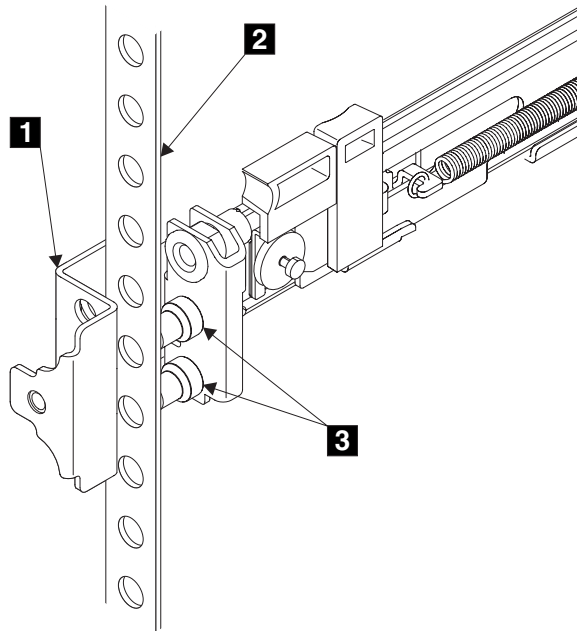

Figure 42. Installing the front end of the rail
6. Place the front end of the left rail in the rack cabinet. Align the top of the front bracket **1** (Figure 42) with the required EIA marking that is on the rack.